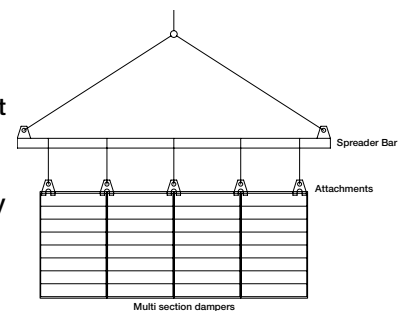

Figure 1- supports for lifting a multi-section damper
- 2) Lift or handle damper using sleeve or frame. Do not lift damper using blades or linkage. When handling multiple sections assemblies, use sufficient support to evenly lift at each section mullion (see Figure 1). Do not drag, step on, apply excessive bending, twisting, or racking.
The following instructions should be followed when attempting to adjust counterweights on the BR series damper. Figure 1, 1A, & 1B shows the typical location of the adjustable counterweight assembly. Depending on the size of the damper and specified start open pressure, the damper may have more than one counterweight assembly.